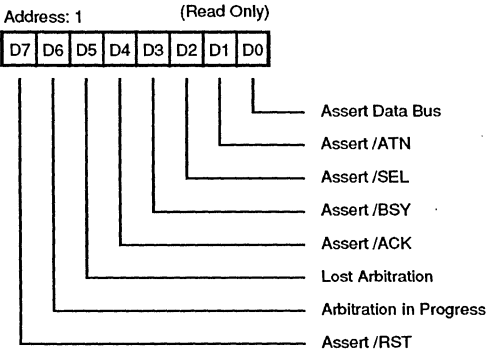

Figure 20. Initiator Command Register (Register Read)
**Initiator Command Register.** Address 1 (read/write). The Initiator Command Register (Figures 20 and 21) are read and write registers which assert certain SCSI Bus signals, monitors those signals, and monitors the progress of bus arbitration. Many of these bits are significant only when being used as an Initiator; however, most can be used during Target role operation.